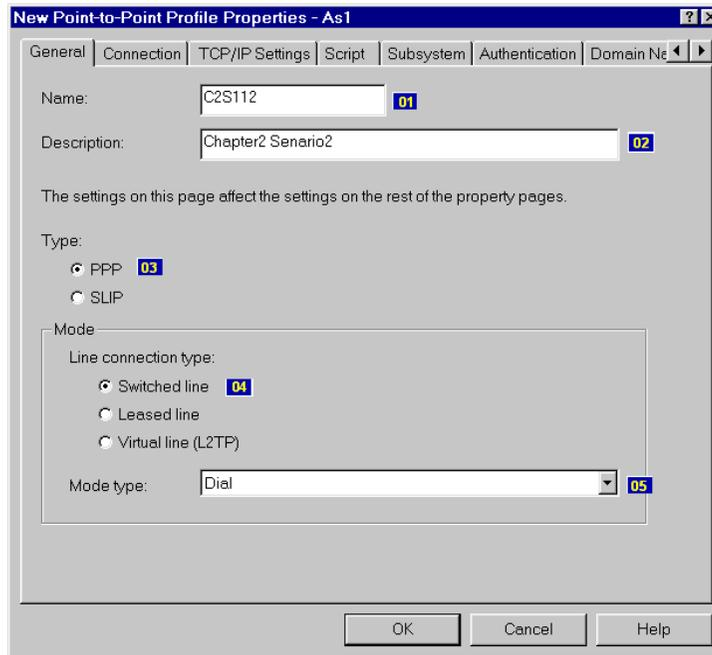
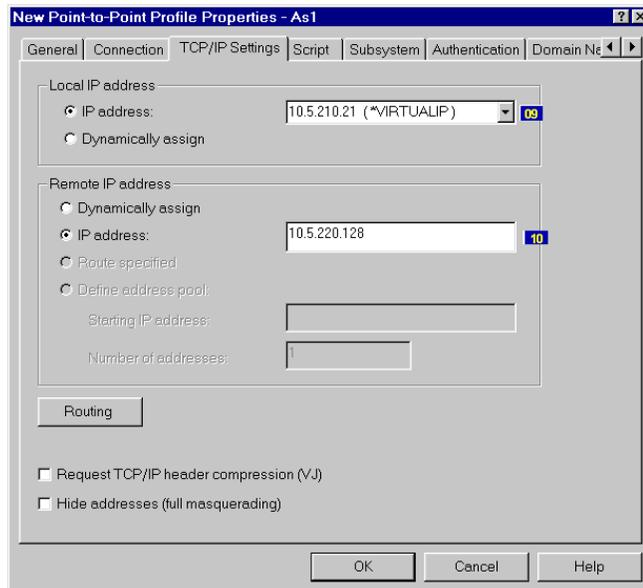

Figure 14. Creating a new Point-to-Point Protocol profile
Figure 20. Setting the local and remote IP address
2. Configure the General page (Figure 14 on page 26) of the PPP profile.
Click **TCP/IP Settings**. The display shown in Figure 20 appears. Select or enter a local IP address.
The numbers in the following tables correspond to the reverse-type numbers shown in Figure 14 on page 26 through Figure 20 on page 31.